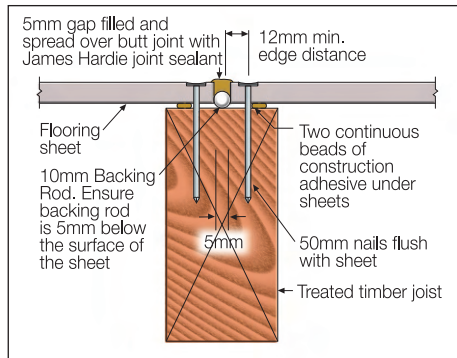

FIGURE 13 BUTT JOINT
All butt joints are installed in accordance with Figure 13.
**NOTES ON FIGURE 13**